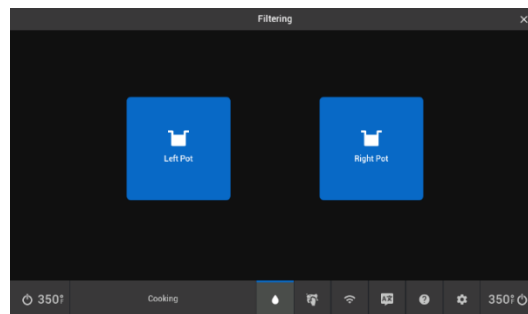

**Figure 103 - Auto Filter Countdown**
- Click  to begin the auto filter countdown **Figure 103**